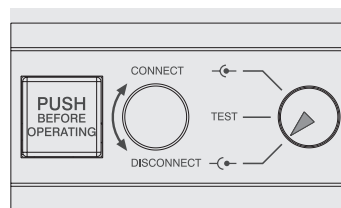

Figure 100
- circuit breaker in DISCONNECT position (see Figure 100)